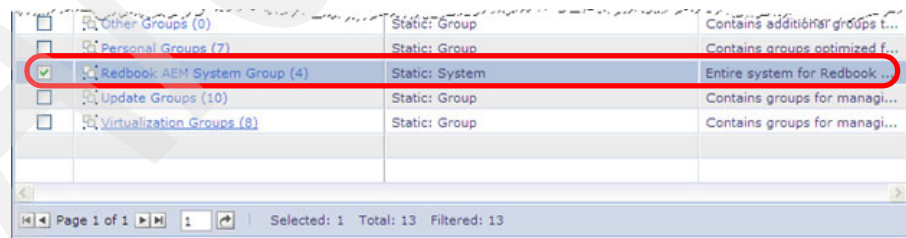

Figure 4-27 The group is created in the Navigate Resources task
5. The static group is created and displays in Navigate Resources as shown in Figure 4-27. A confirmation message about the group creation displays also. Click the static group that you just created (in this example **Redbook AEM System Group**) to manage and apply policies only to the systems under its Group.